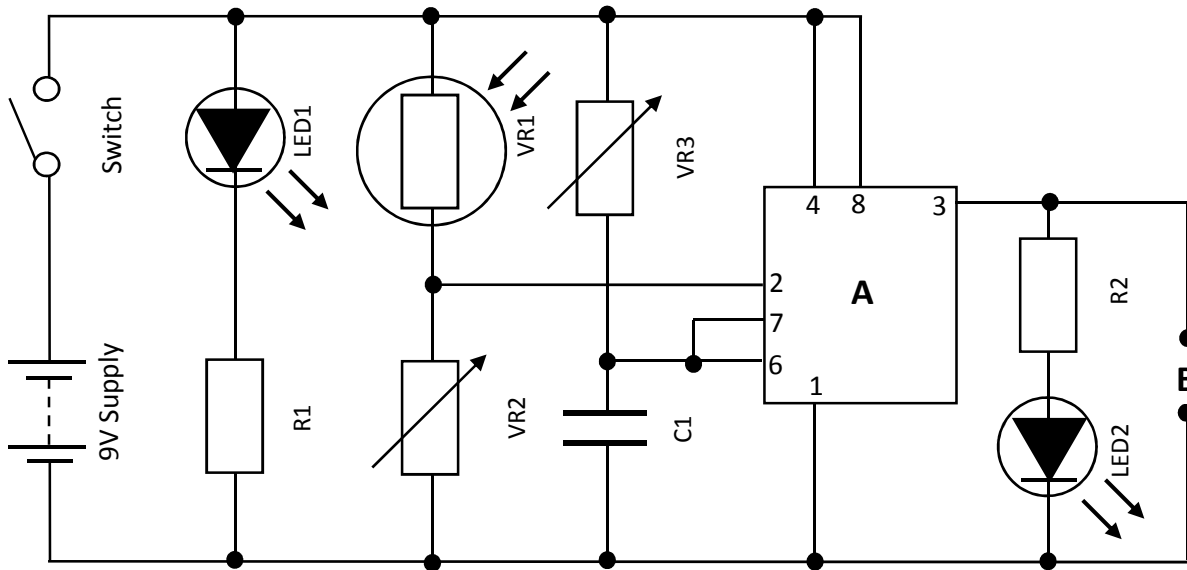

Figure 4
a. The circuit diagram for an intruder alarm is shown in Figure 4.
i. State the function of a monostable circuit as shown in Figure 4.
d. i. Calculate the value for resistor R1 when a current of 20mA flows through LED1 in Figure 4. The voltage for LED1 is 2V and the voltage for the circuit's supply is 9V. Show all working in the space provided below.